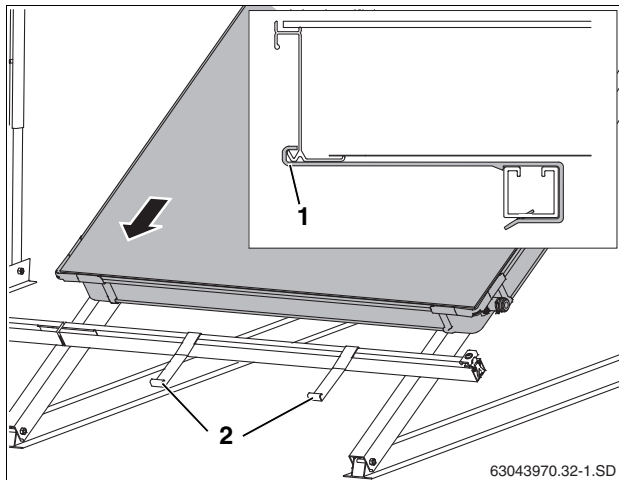

Fig. 46 Laying the first collector on the profile rails
- ▶ Place the first collector onto the profile rails and allow it to slide into the collector hangers (Fig. 46, [2]) (Fig. 46).
The lower collector edge must lie evenly in the opening of both collector hangers (Fig. 46, [1]).